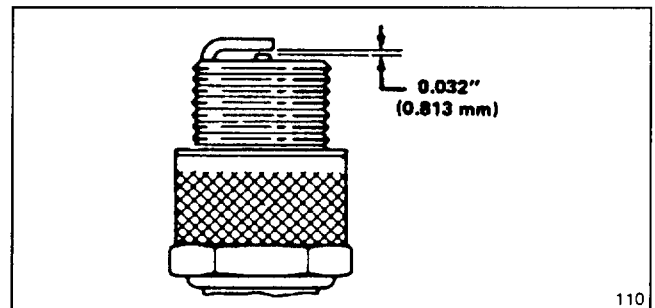

Figure 11
3. Set air gap at 0.032" (0.81 mm) (Fig. 11). Install correctly gapped spark plug and gasket seal. Tighten plug firmly to 10 ft-lb (13.6 N.m).